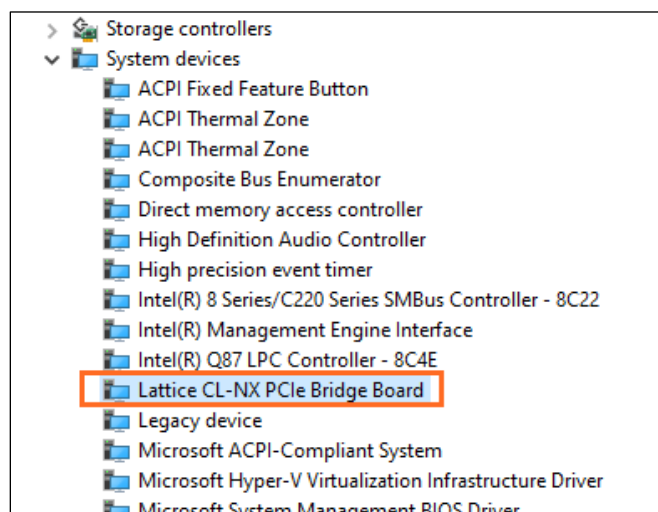
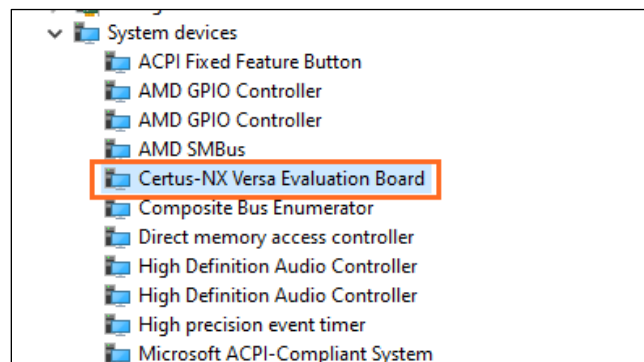
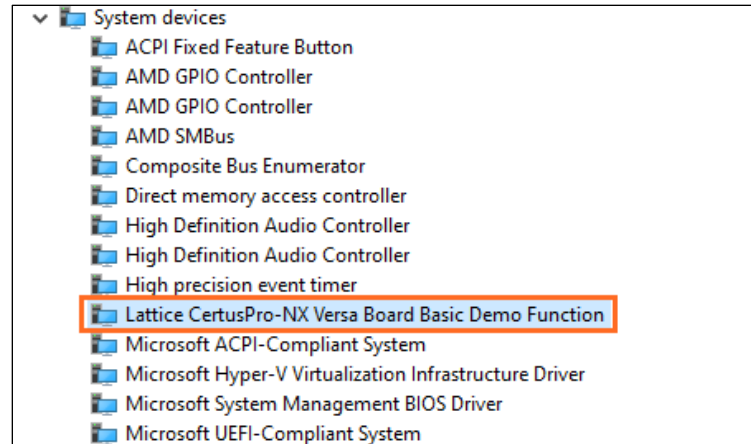

Figure 5.47. Basic Demo Device Name Displayed in Device Manager for CrossLink-NX
Figure 5.48. Basic Demo Device Name Displayed in Device Manager for Certus-NX
Figure 5.49. Basic Demo Device Name Displayed in Device Manager for CertusPro-NX
- After the driver is installed, the device driver name is displayed in **Device Manager**, as shown in Figure 5.47 for CrossLink-NX, Figure 5.48 for Certus-NX, and Figure 5.49 for CertusPro-NX.